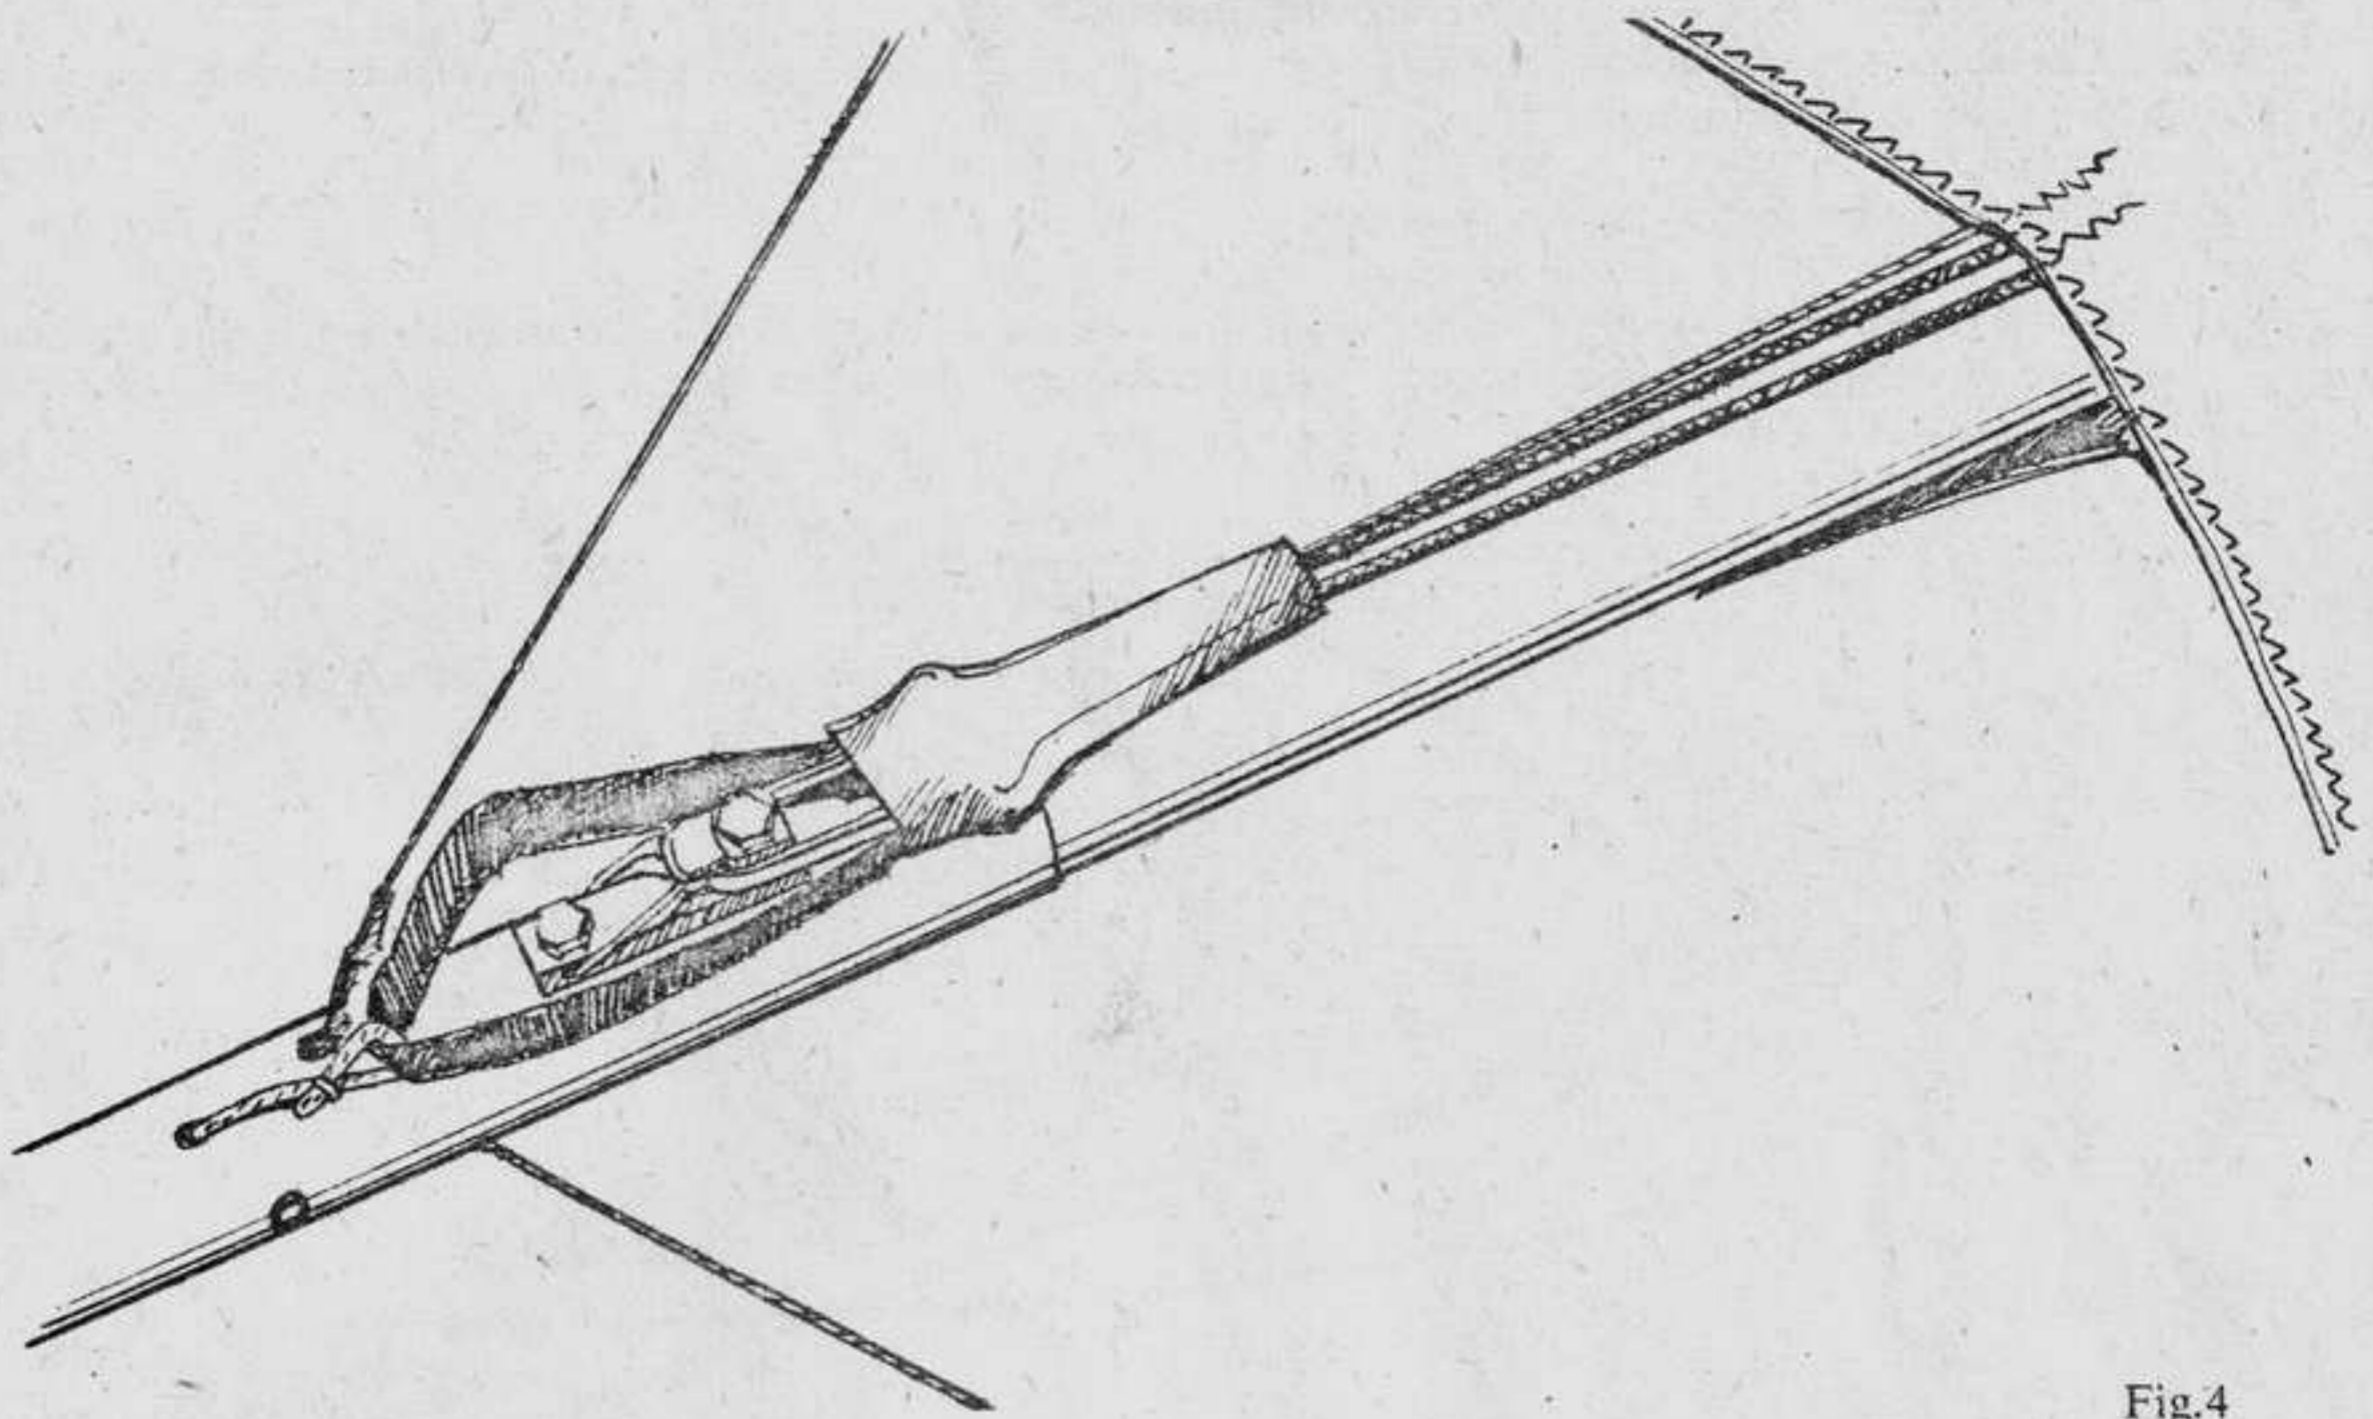

Fig.4
2.1.5. Attach the shackle of the crossbar tensioning wires to the hook which is placed on the keel tube (fig.4). Check that crossbar wires and VG ropes are not twisted.